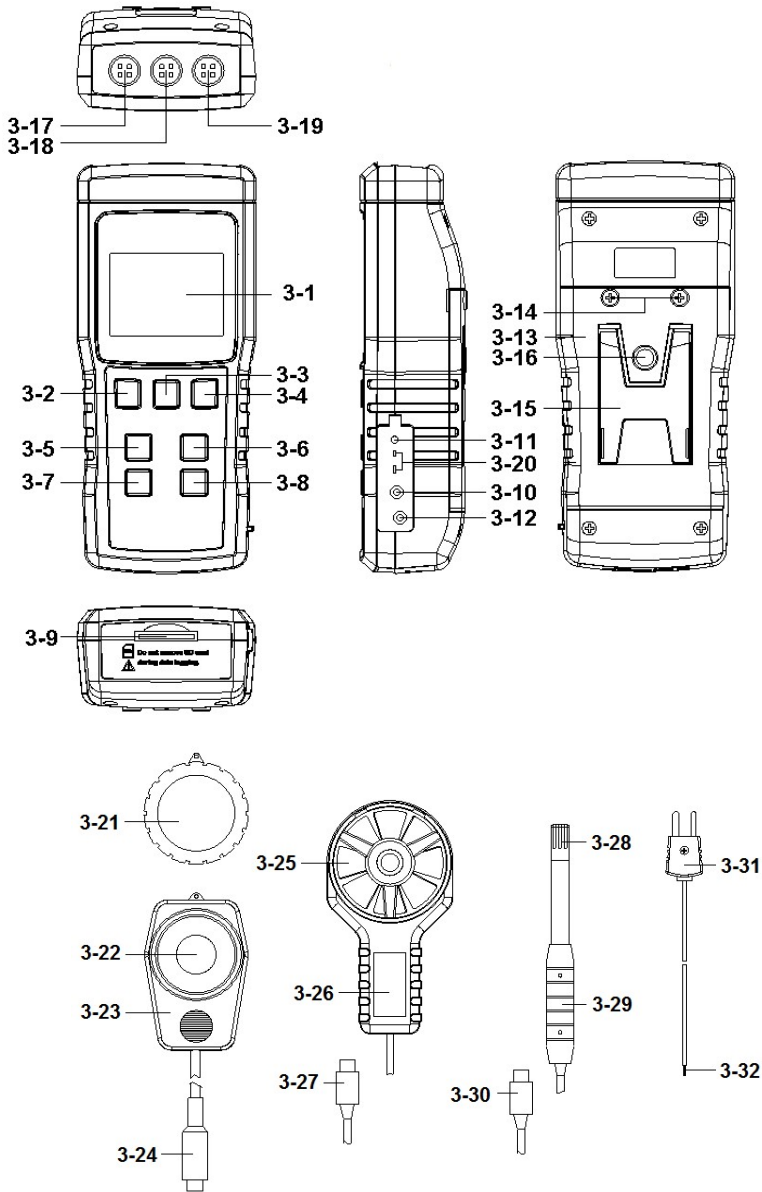

Fig. 1
(3-2, Fig. 1) momentarily.
* Pressing the " Power Button " (3-2, Fig. 1)
Pressing the " Function Button " (3-6, Fig. 1)
just release the " Function Button " (3-6, Fig. 1), the meter will
- 2) Plug the " Probe Plug " (3-27, Fig. 1) into the " Probe Input Socket " (3-19, Fig. 1).
Power on the meter by pressing the " Power Button " (3-2, Fig. 1) once,
- 3) Hold the Probe by hand and let the " Anemometer sensor " (3-25, Fig. 1) face against the measuring air flow source, then the Display (3-1, Fig. 1) will show air velocity directly. At the same time, the lower Display will show the air temperature value and air flow.
If intend to change the Air velocity unit, select to the Air velocity function only, then press the "Unit Button " (3-5 Fig.1) continuously, the unit will change from m/S to Km/h, mph, Knot, FPM in sequence, until the desired unit is present on the Display release the " Unit Button ", the select unit will save into the memory with default.
Plug the " Probe Plug " (3-30, Fig. 1) into the " Probe Input Socket " (3-18, Fig. 1).
- 2) Power on the meter by pressing the " Power Button " (3-2, Fig. 1), the LCD shows the unit " %RH " & " °C or °F " at the same time and measured value will show on the display (upper display is Humidity value, the lower display is the temperature value ,Upper right show Dew value, bottom right show Wet value) .
If intend to change the Temp. display unit, select to the Humidity and Temperature measurement function only, then press the "Unit Button " (3-5 Fig.1) continuously, the unit will change from " °C " to " °F " sequence, until the desired unit is present on the Display release the " Unit Button ", the select unit will save into the memory with default.
- 2) Plug the Thermocouple Temp. Probe (Type K Temp. probe or Type J Temp. probe, optional) Plug(3-31 Fig.1) into " Type K/J Probe Input Socket " (3-20, Fig. 1)
If intend to change the Temp. display unit, select to the Type K/J Thermometer function only, then press the "Unit Button " (3-5, Fig.1) continuously, the unit will change from " °C " to " °F " sequence, until the desired unit is present on the Display release the " Unit Button ", the select unit will save into the memory with default.
- 2) Plug the " Probe Plug " (3-24, Fig. 1) into the " Probe Input Socket " (3-17, Fig. 1).
- 3) Hold the Probe by hand and let the " Light sensor " (3-22, Fig. 1) face against the measurement light source, the Display (3-1, Fig. 1) will show the light measurement value.
If intend to change the Light unit (LUX, Ft-cd), At the light mode only, press the Unit Button " (3-5, Fig.1) continuously, the unit will change from LUX, Ft-cd in sequence, until the desired unit is present on the Display release the Unit Button , the select unit will save into the memory with default.
During the Light measurement, use the light sensor cover (3-21 Fig.1) blank the Light Sensor (3-22, Fig. 1) completely, if the Display is not show zero value, together press the " ▲ Button " (3-5, Fig. 1) & " ▼ Button " (3-6, Fig. 1) > 3 seconds, Display will show the zero value.
During the measurement, press the " Hold Button " (3-3, Fig. 1) once will hold the measured value & the LCD will display a " HOLD " symbol.